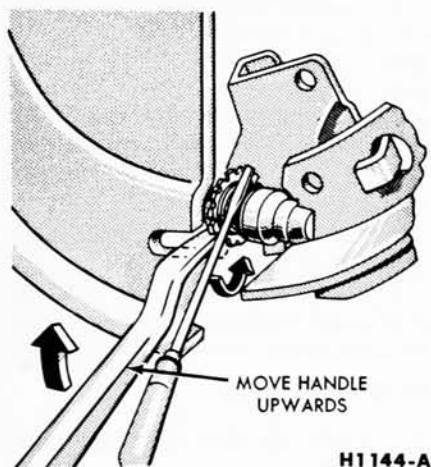

FIG. 6—Backing off Brake Adjustment
2. Insert a narrow screwdriver through the brake adjusting hole at the inner side of the brake carrier plate, and disengage the adjusting lever from the adjusting screw. While holding the adjusting lever away from the screw, back off the adjusting screw with the brake adjusting tool (Fig. 6). **Be very careful not to burr, chip, or damage the notches in the adjusting screw; otherwise the self-adjusting mechanism will not function properly.**